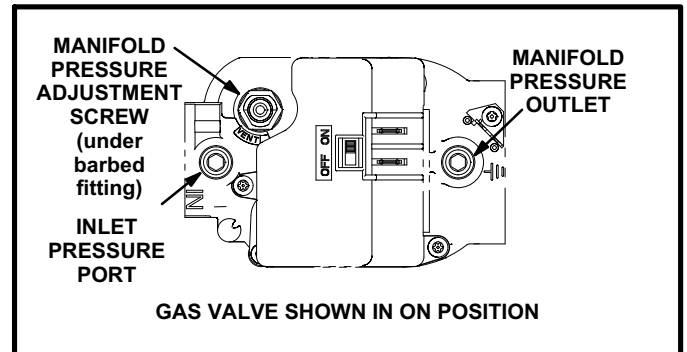

FIGURE 53
Gas Valve Operation (Figure 53)
- 6 - Move gas valve switch to **OFF**. See figure 53.
- 8 - Move gas valve switch to **ON**. See figure 53.
When testing supply gas pressure, use the 1/8" N.P.T. plugged tap or pressure post located on the gas valve to facilitate test gauge connection. See figure 53. Check gas line pressure with unit firing at maximum rate. Low pressure may result in erratic operation or underfire. High pressure can result in permanent damage to gas valve or overfire.